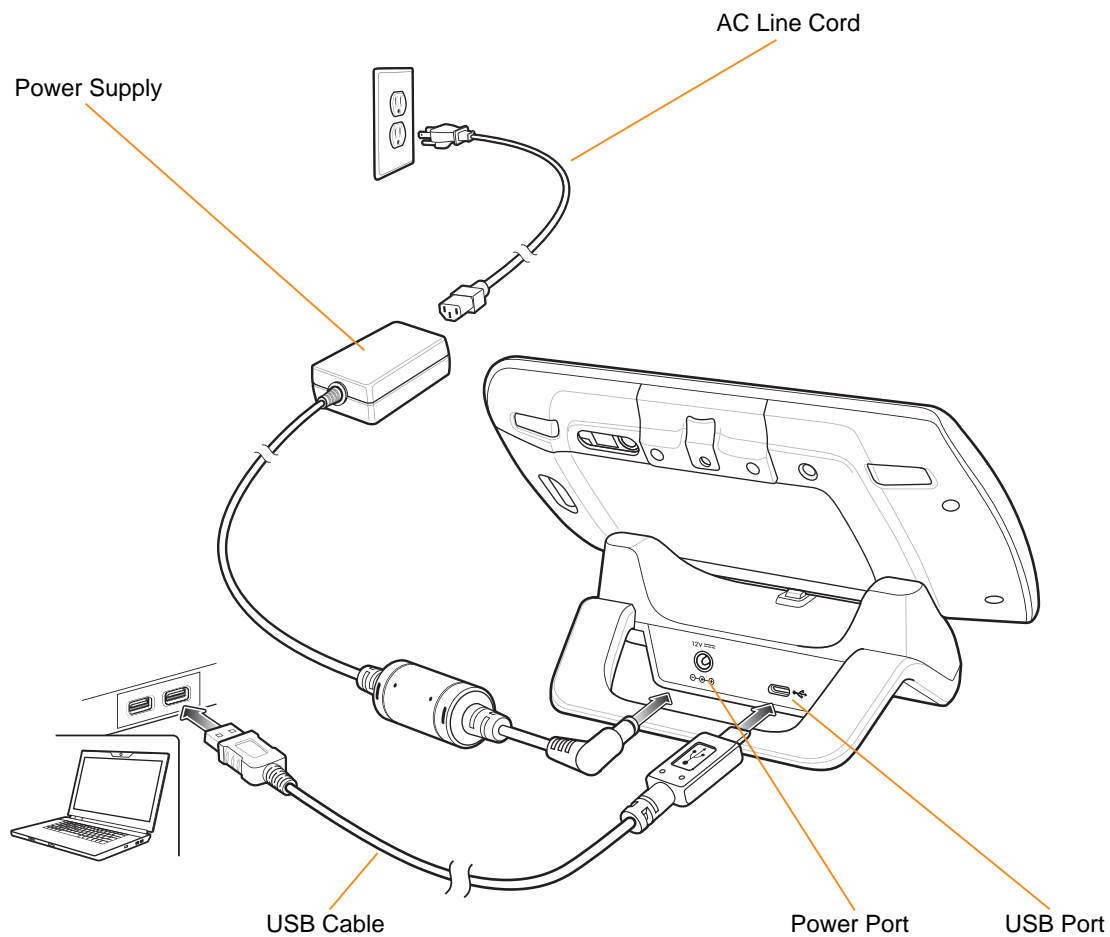

Figure 2-1 Single-slot USB Docking Cradle Power and USB Connections
1. Setup the cradle as shown in Figure 2-1.